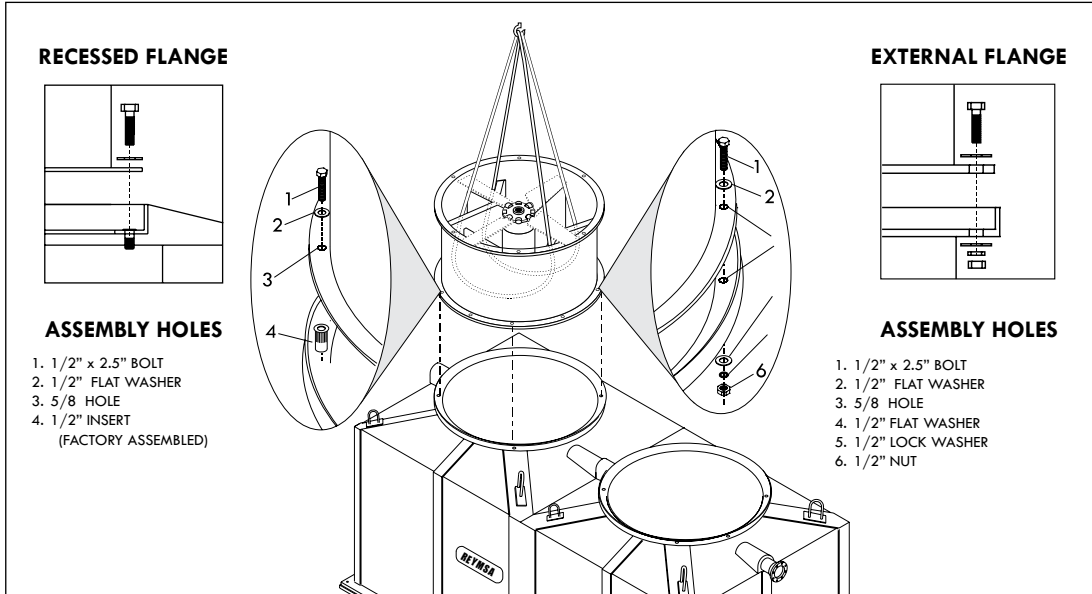
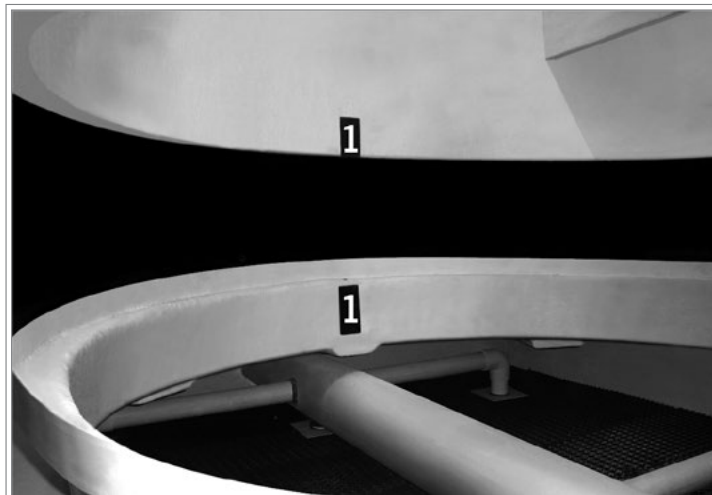

Figure A-16: Fan duct assembly for a double fan tower
Figure A-17: Fan duct alignment for a double fan tower
K. Remove fan guard. Then cradle/straddle the fan support with the straps (as shown in figure A-16) so you can lift the fan duct with a crane and assemble it.
L. Identify each fan duct, they are labeled with a number on the inside of the lower edge. For a correct installation, this number must match the number on the receiving flange. Now place fan duct 1 on the correspondent receiving flange on top of the tower (see Figure A-16); make sure the bolt holes and the marks inside the fan duct and the receiving flange are aligned (Figure A-17). Secure it with the stainless steel nut and bolt sets supplied by REYMSA. There are two different types of receiving flanges, each one has its own assembly pieces (see Table A-3 to verify the type of receiving flanges of your tower).